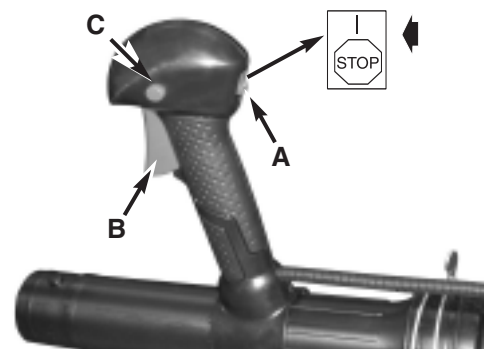

Fig. 11
3. Set throttle lock (C): While holding trigger (B) at wide open position, press down and hold throttle lock (C). Release throttle trigger (B), then release throttle lock (C). Throttle trigger (B) will now remain in the wide open position. Make sure ignition switch is in the ON (I) position. (Fig. 11)